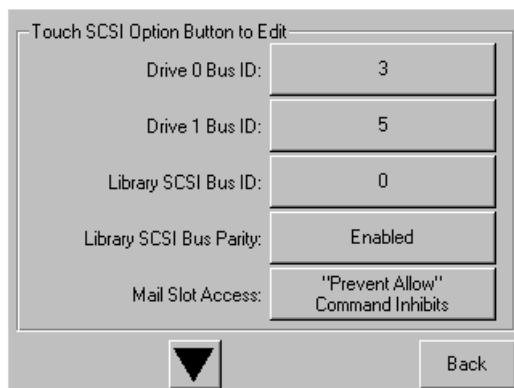

Figure 22: Drive 0 bus ID data field screen (two-drive model shown)
- d. Touch **OK** to confirm. A new SCSI ID now appears in the Drive 0 Bus ID data field (see Figure 22).